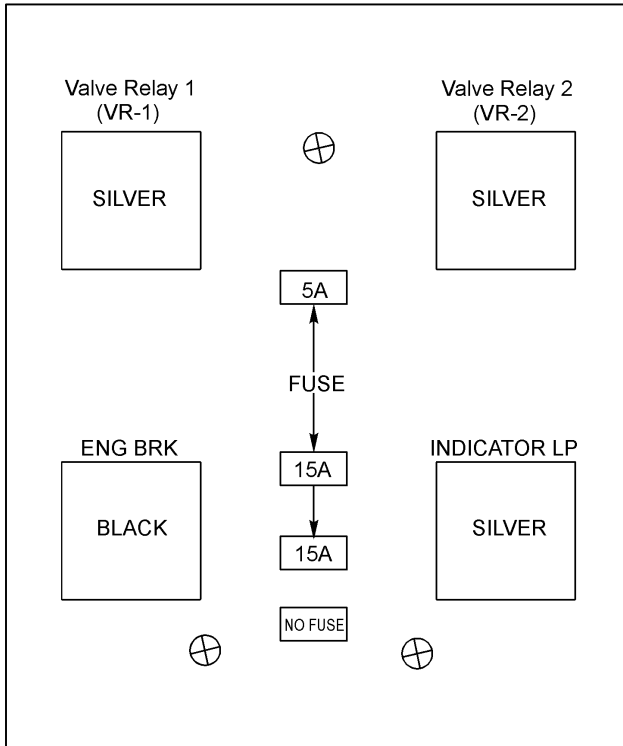

Figure 13. Relay/Fuse Block
- Refer to ABS Wiring Diagram on page 3-100.84 and Figures 13 and 14 for assistance in troubleshooting.
- Remove VR-1 from relay/fuse block (Figure 13, page 3-100.30).